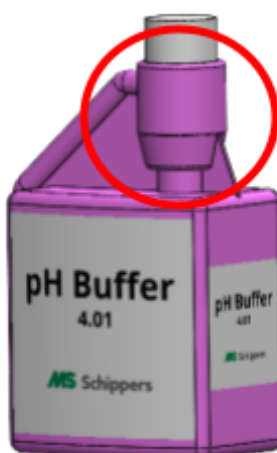

Figure 80.
The pH solution bottle is equipped with a buffer vessel at the top (see Figure 80). This buffer vessel allows you to calibrate the probe accurately without contaminating the entire contents of the bottle. Follow these steps for optimal results:
- The liquid rises into the upper buffer vessel (see Figure 80).